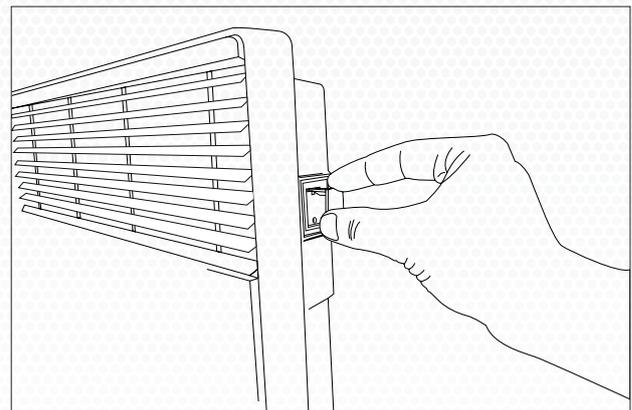

FIG:2
- Holding the key with the tooth at the top, note the T shape of the tooth. On the top right hand side of the heater is a plastic cover, on this cover you will see a corresponding T slot. Locate the key into the T slot on the heater (see fig 2).